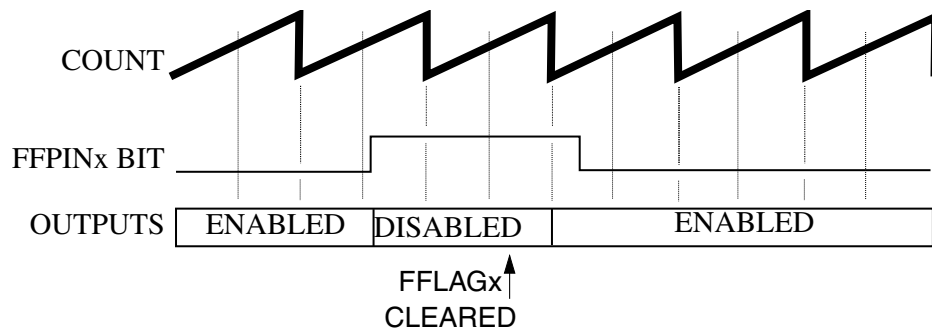

Figure 107. Manual fault clearing (FCTRL[FSAFEx] = 0, FSTS[FFULLx] = 1)
- The pins are enabled when the next PWM full or half cycle begins regardless of the logic level detected by the filter at the FAULT_x pin, as shown in Figure 107. If FSTS[FFULL_x] is set, then the disabled PWM pins are enabled at the start of a full cycle. If FSTS[FHALF_x] is set, then the disabled PWM pins are enabled at the start of a half cycle.